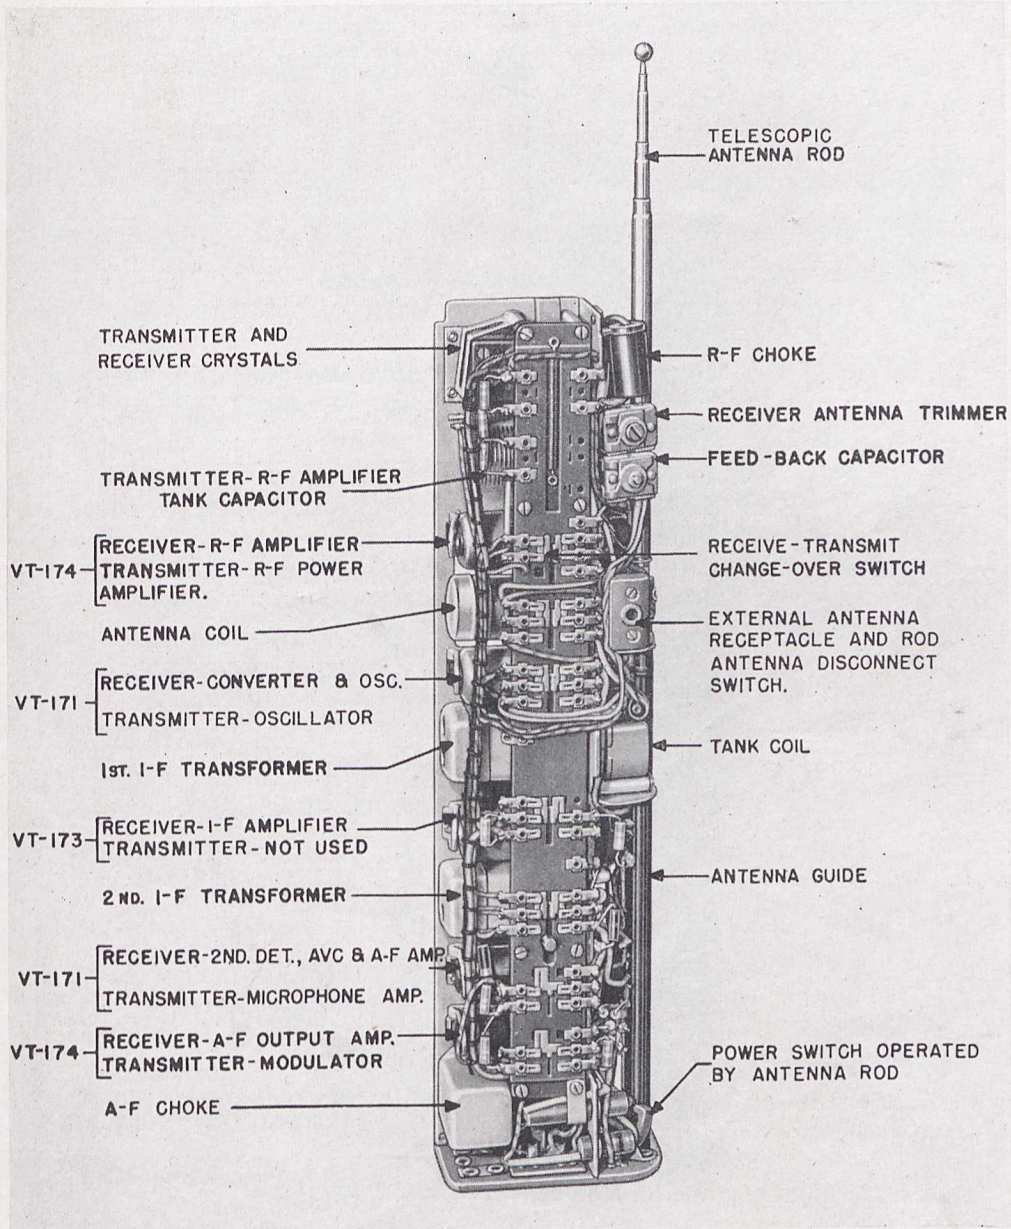
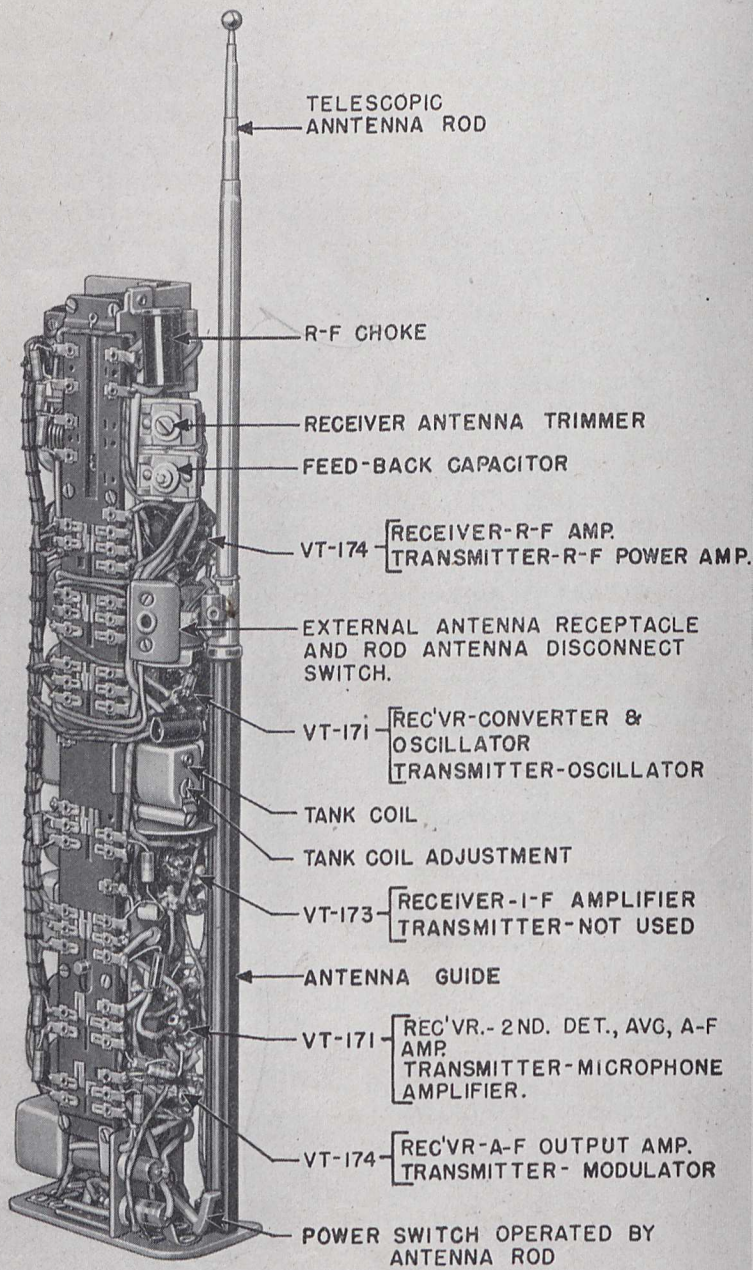

FIG. 15. RADIO RECEIVER AND TRANSMITTER BC-721-A CHASSIS (FRONT VIEW)
FIG. 16. RADIO RECEIVER AND TRANSMITTER BC-721-A CHASSIS (BOTTOM VIEW)
26. REPLACEMENT OF THE ANTENNA COIL.—The antenna coil is of the “plug-in” type. It can be easily removed and replaced. See Fig. 15.
27. REPLACEMENT OF THE R-F TANK COIL.—To remove the coil, loosen the screw holding down the spring clip on top of the coil; then swing the clip free of the coil. The coil can then be lifted out of the socket. When replacing, fit the coil carefully over the two pins projecting up from the socket so that the pins fit into the holes in the coil form and the coil adjustment fits into the hole in the socket. Gently press the coil into the socket and replace the spring clip on top of the coil. See Fig. 15.
30. REMOVAL AND REPLACEMENT OF A CRYSTAL.—The crystals are mounted in “plug-in” type holders. To remove a crystal, lift up the clamp located on top of the crystal holder. This clamp pivots on a stud fastened to the chassis. Place a screw driver between the crystal holder and the socket and gently pry it up. See Fig. 15.
The antenna coil is larger and of a different shape than the tank coil. Its base connections also differ, so there can be no possibility of getting the coils in the wrong sockets. Both coils are of the plug-in type to simplify replacement. See Fig. 15, and Fig. 16.